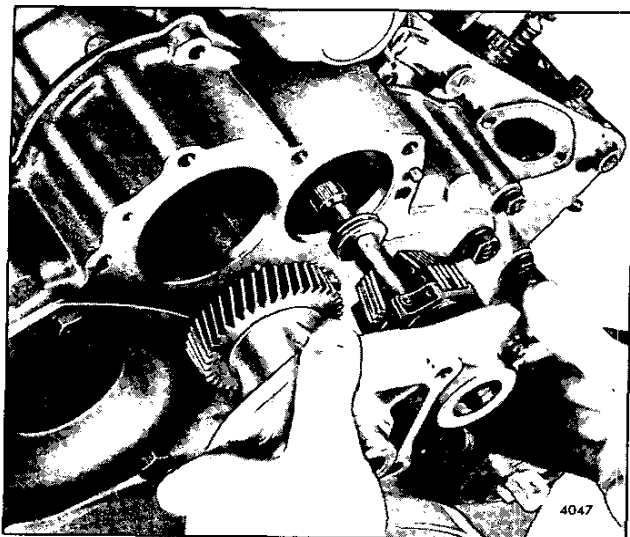

Fig. 3 - Removing or Installing Blower Drive Support
9. Remove the blower drive support (Fig. 3) as outlined in Section 3.4. The governor weight and shaft assembly will be removed with the blower drive support.